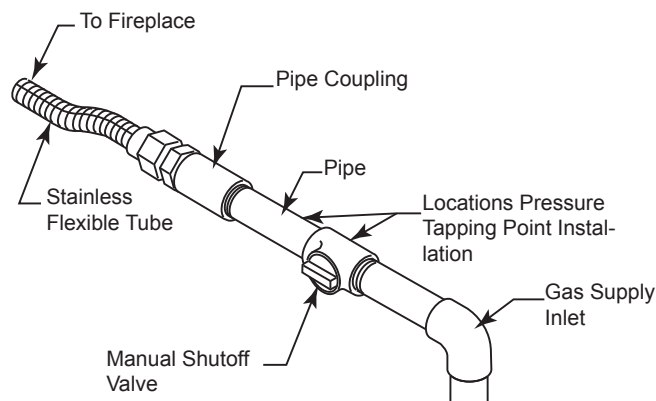

Figure 11. Gas Connection
**WARNING:** Use new black iron or steel pipe. Internally tinned copper or copper tubing can be used per National Fuel Code, section 2.6.3, providing gas meets hydrogen sulfide limits, and where permitted by local codes. Gas piping system must be sized to provide minimum inlet pressure (Listed on Data Plate) at the maximum flow rate (BTU/hr). Undue pressure loss will occur if the pipe is too small. A manual shutoff valve must be installed upstream of the appliance. Union tee and plugged 1/8" NPT pressure tapping point should be installed upstream of the appliance. Figure 11